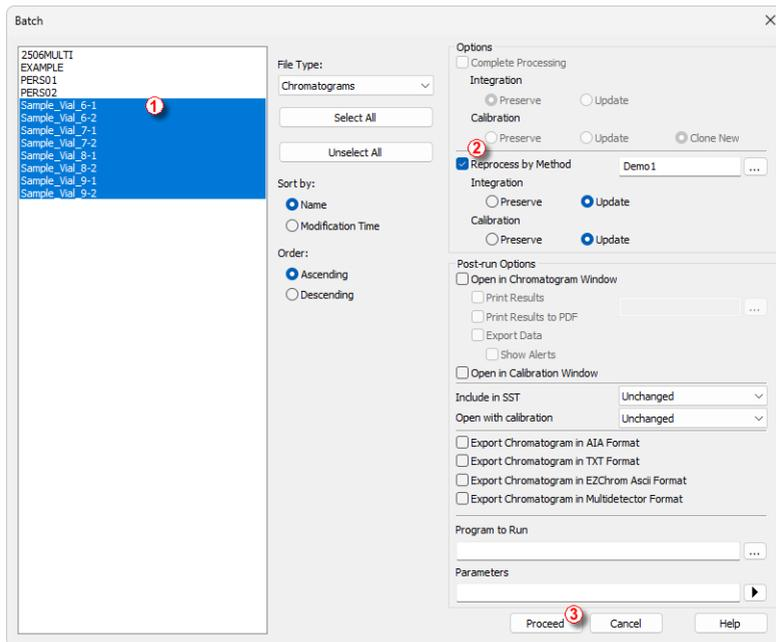

Fig. 18: Batch dialog with selected chromatograms
- Select the files to be reprocessed in the left part of the dialog (1) (Fig. 18 on pg. 32.); multiple files can be selected by left-clicking them while holding the **Ctrl** or **Shift** key. For the demonstration, select all files with the names SAMPLE\_VIAL\_X-Y to be reprocessed.
- Check the *Reprocess by Method* (2) checkbox, select the method to be used for the reprocessing (the one that has the correct calibration linked), and in